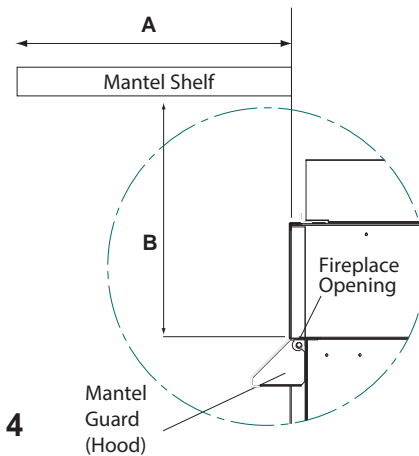

Fig. 4
- b) A heat reducing mantel guard is shipped with the fireplace. Use of this mantel guard is required in order to reduce mantel heights as shown in figure 5. When the mantel guard is installed, a combustible mantel piece may project 2" from the wall at 6" above the fireplace opening. A 6" mantel projection at 13" above the fireplace opening and a 10" projection at 22" above the opening. (Fig 4 and 6)
- c) If the fireplace has no mantelpiece, then the heat resistant material must extend upwards a distance of at least 9" from the fireplace opening. (Fig. 4)